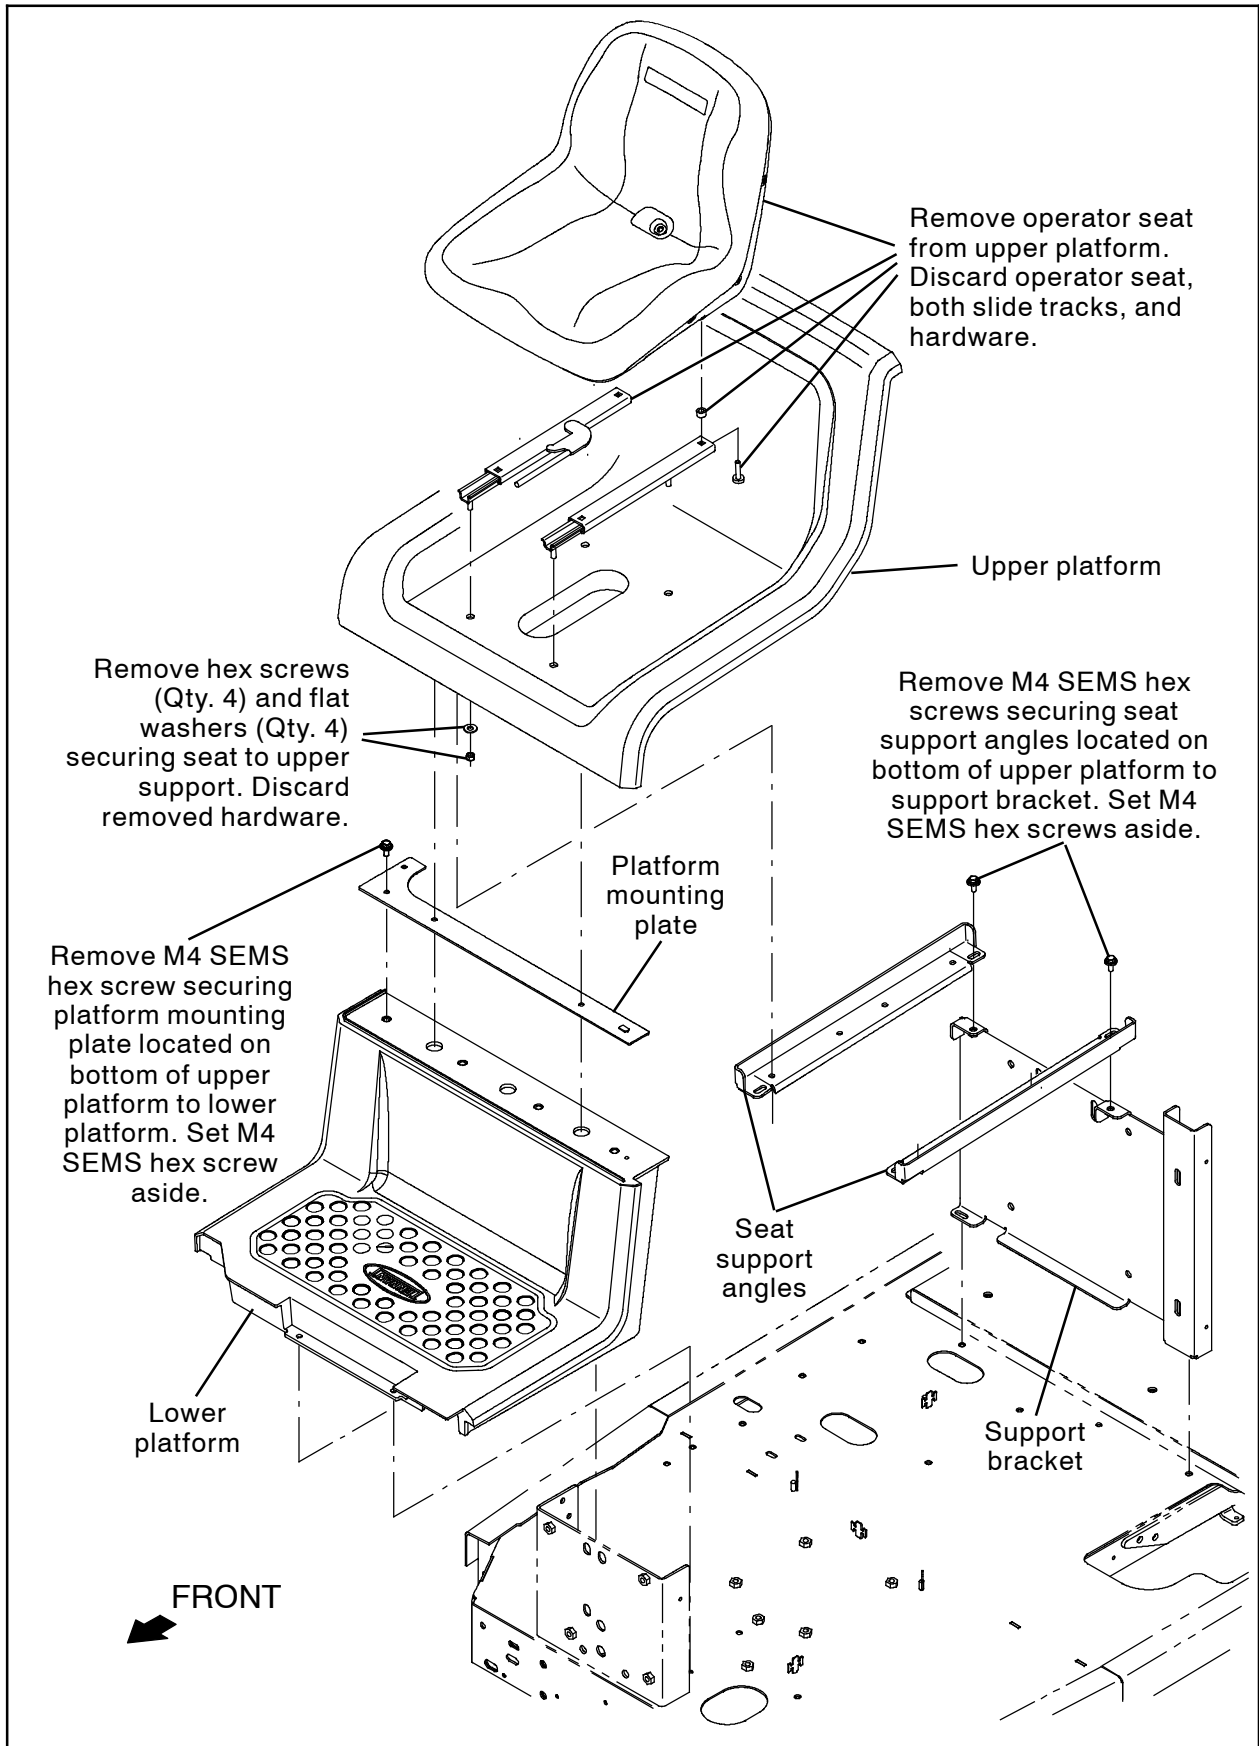

FIG. 1
2. Remove the upper platform from the machine. Set all mounting hardware aside. (Fig. 1)
3. Remove the existing seat from the machine. Discard the seat, both slide tracks, and all mounting hardware. (Fig. 1)